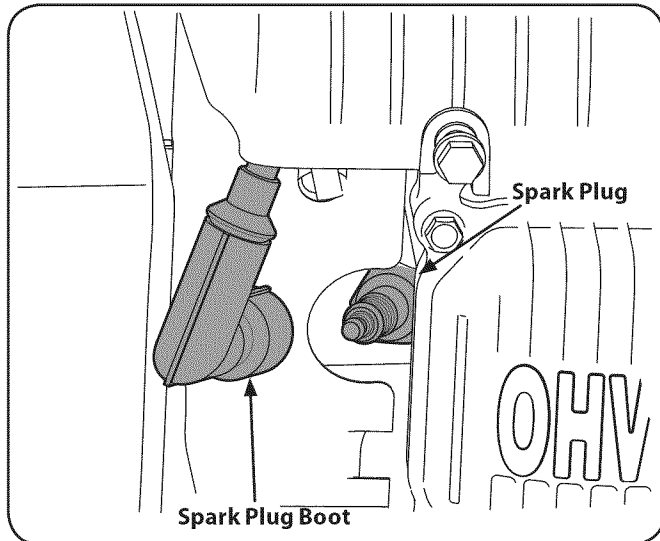

Figure 18
1. Remove the spark plug boot and use a spark plug wrench to remove the plug. See Figure 18.